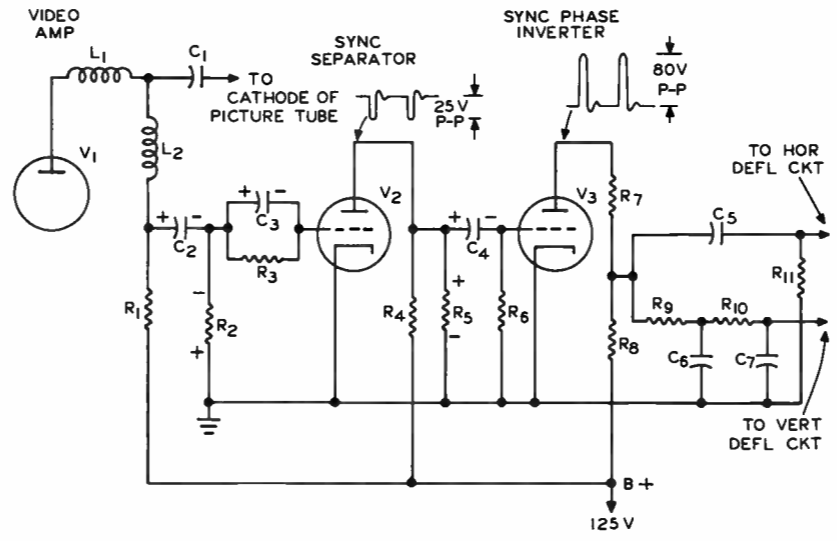

FIGURE 1
1. In the circuit of Figure 1, resistors R_9 and R_{10} and capacitors C_6 and C_7 form an
1. In the circuit of Figure 1, resistors R_9 and R_{10} and capacitors C_6 and C_7 form an **integrating network**.
In the circuit of Figure 1, the dual time constant network consisting of C_2R_2 and C_3R_3 (A) prevents the stripped sync pulses from affecting the output capacitance of V_1 . (B) increases the frequency of the horizontal sync pulses. (C) separates the horizontal and vertical sync pulses. (D) prevents noise pulses from changing the bias on the sync separator.